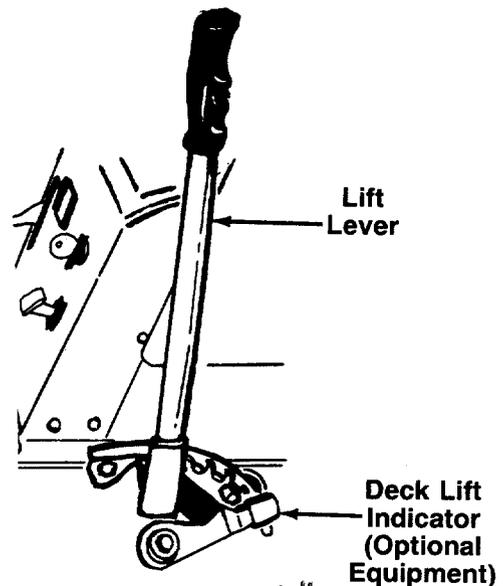

FIGURE 10. Low 1 3/8" TO HIGH 3 3/4"
NOTE: The lift lever **must** be in the disengaged position when starting the engine, when shifting into reverse and if the operator leaves the seat. See figure 10.
If so equipped, the deck lift indicator marks the position being used for the lift lever. Select the lift lever position desired, press the indicator lever outward, move it to the position immediately below the lift lever and release the indicator lever. See figure 10.
2. Place the lift lever in the DISENGAGED position. See figure 10.